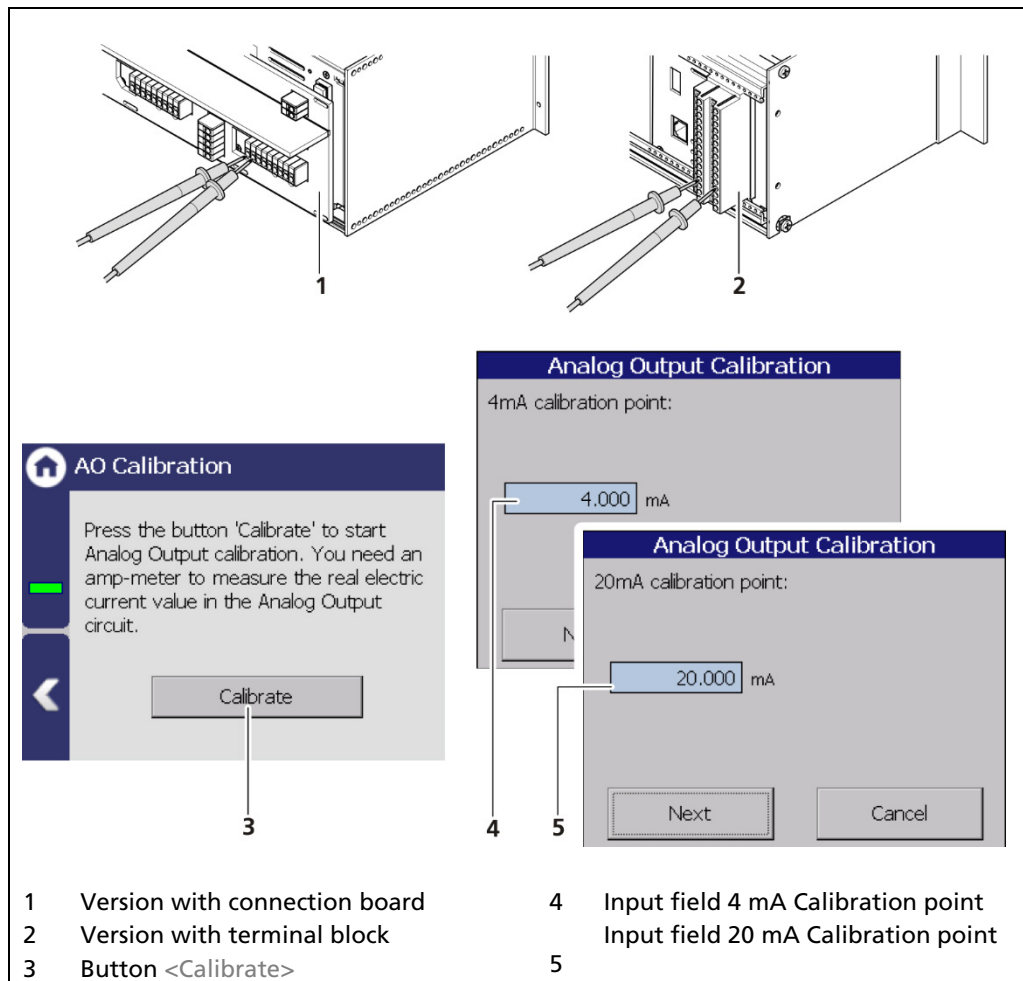

Fig. 119 Analog Output (Calibration)
3. Enter the indicated value on the current measuring instrument in the input box (Fig. 119, item 4).
5. Enter the indicated value on the current measuring instrument in the input box (Fig. 119, item 5).